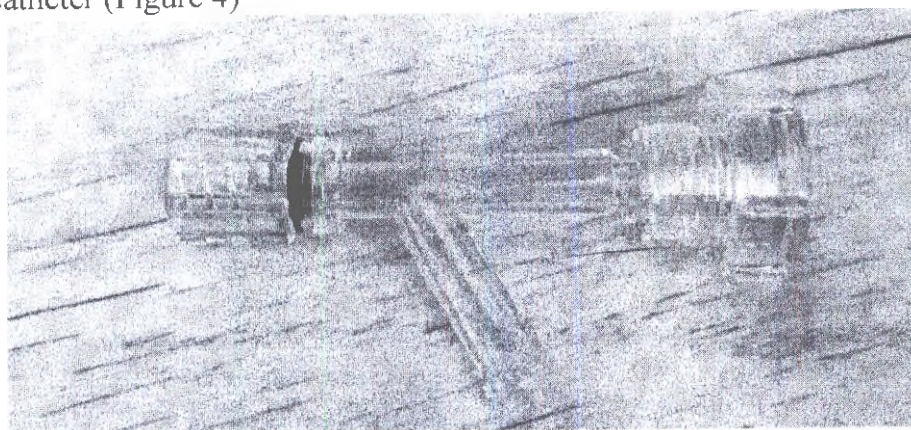

Figure 4 - Y-connector with hemostatic valve
- ❖ Y-connector with hemostatic valve (5), which allows to install the introducer in the base of the microcatheter (Figure 4)